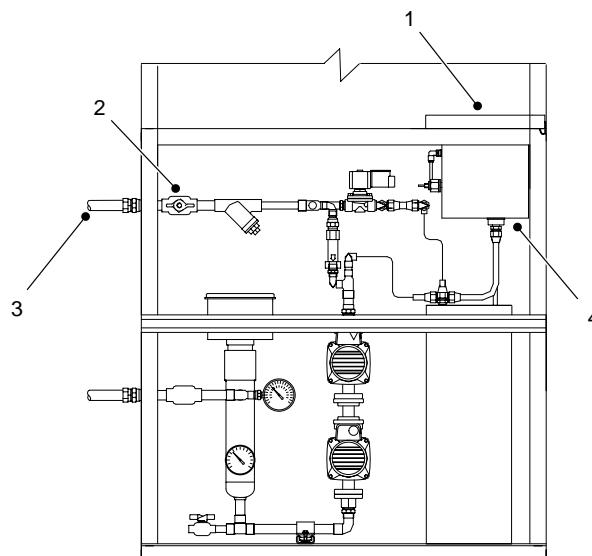

Figure 9 Filling the Water Reservoir
7. See Figure 9. If necessary, purge the air and prime the pumps:
- b. Close the From Process return line valve (2). Disconnect the hose (3) and hold it in the reservoir (4).
- d. Connect the hose (3). Open the From Process return line valve (2).
1. See Figure 9. Remove the cover (1) on the reservoir (4).
2. Mix 1.5 oz of Corrshield MD405 with a gallon of water. Pour this mixture into the reservoir (4).
3. Install the cover (1) onto the reservoir (4).